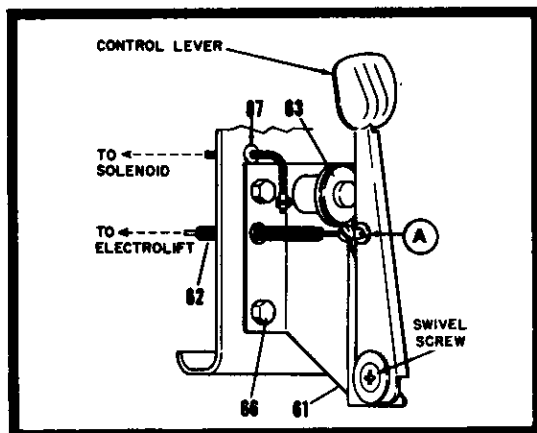
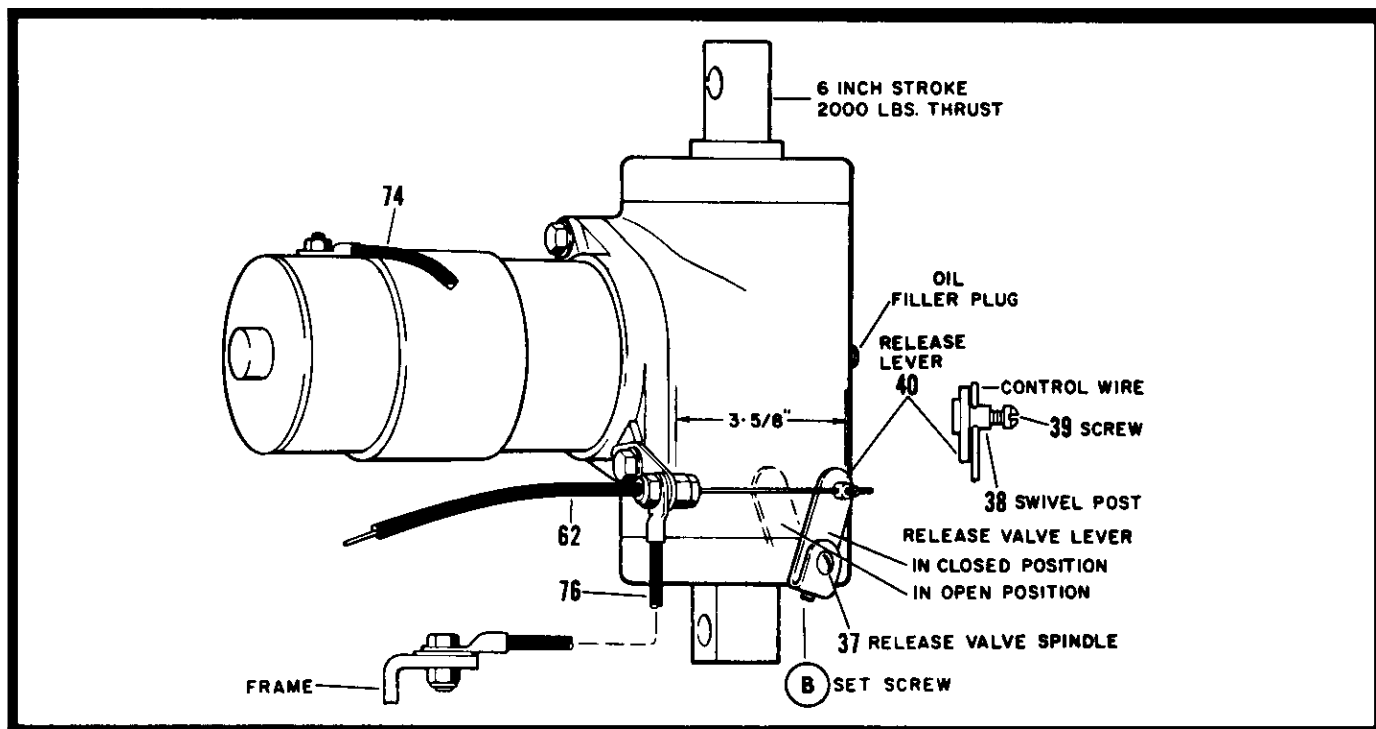

Figure 2. Control Lever Installation
Figure 3. Electrolift Connections and Adjustments
- (a) **Install Control Assembly** (See Fig. 2) To mount Control Assembly, punch or drill four holes in dashboard and one in firewall (reasonably in line with Control Assembly) for control cable. **NOTE:** The cable should be as straight as possible (to avoid kinking of control wire) and slope downwards to Electrolift (to avoid creating pockets where moisture can accumulate and freeze). Select a location for Control Assembly (on the dashboard) which will be convenient to driver. Use template "A" when punching or drilling holes. Self-tapping screws work best in punched holes.
To install Control Assembly, insert control cable through the 1/2" hole in dashboard and firewall. When necessary to make a hole in body sheet metal, make a 7/16" diameter hole and assemble control cable grommet (86). Fasten this assembly to dashboard (see fig. 2) with self-tapping screws furnished.
If conduit cutting is necessary, first, loosen control wire lock screw at Control Lever ("A" in fig. 2). Pull control wire out several feet then cut conduit at the mark previously made. After cutting, thread conduit as follows: Place a few drops of oil on end of conduit. Install and turn conduit nut on conduit to form a thread. Remove nut after thread is formed.
- (c) Check oil level in Electrolift. It should be just below filler plug (See Fig. 3). Tapping the casting with a hammer, in the area around the filler plug, will aid in removing the plug. Normally, your unit should not require re-filling. NOTE: A certain amount of oil may work up through Top Cap and Wiper-Scraper Seal, but, as long as Lift holds in raised position, this does not indicate any failure. In most cases, the actual amount of oil lost is negligible. For best results, use only genuine Electrolift Oil which contains an anti-icer additive and remains free-flowing at sub-zero temperatures. When Electrolift Oil is not available, SAE 10W cut with 25 to 50% Kerosene may be used temporarily. However, empty and re-fill with Electrolift Oil as soon as possible.
- (a) Free Control Wire at "A" in fig. 2 and manually set the Release Valve Lever in the closed position (See Fig. 3). Check the Lever location against the 3-5/8" dimension shown in fig. 3. If Lever is out of position, loosen set screw "B" (see fig. 3) and turn (clockwise) Release Valve Spindle snugly into closed position with a screw driver, rotate Lever on the Release Valve Spindle until the 3-5/8" dimension is obtained then re-tighten Set Screw "B". Set Control Lever so that it is about 1/16" away from Starter
- (a) Make sure that set screw "B" (Fig. 3) and Swivel Post Screw (39) are tight. Also check Release Valve Lever in closed position against the 3-5/8" dimension in figure 3. If necessary to re-adjust, see par. 3a.
- (b) Adjustment of tension on control lever handle is controlled by swivel screw (See Fig. 2) and held in adjustment by a locknut. To tighten control handles, use a screw driver (cross-recessed type) to turn swivel screw to the desired tension. Then hold swivel screw stationary while pulling-up lock nut. To loosen control handles, hold the swivel screw from turning, while backing off the locknut. Adjust the swivel screw as desired. Hold swivel screw stationary and tighten lock nut.